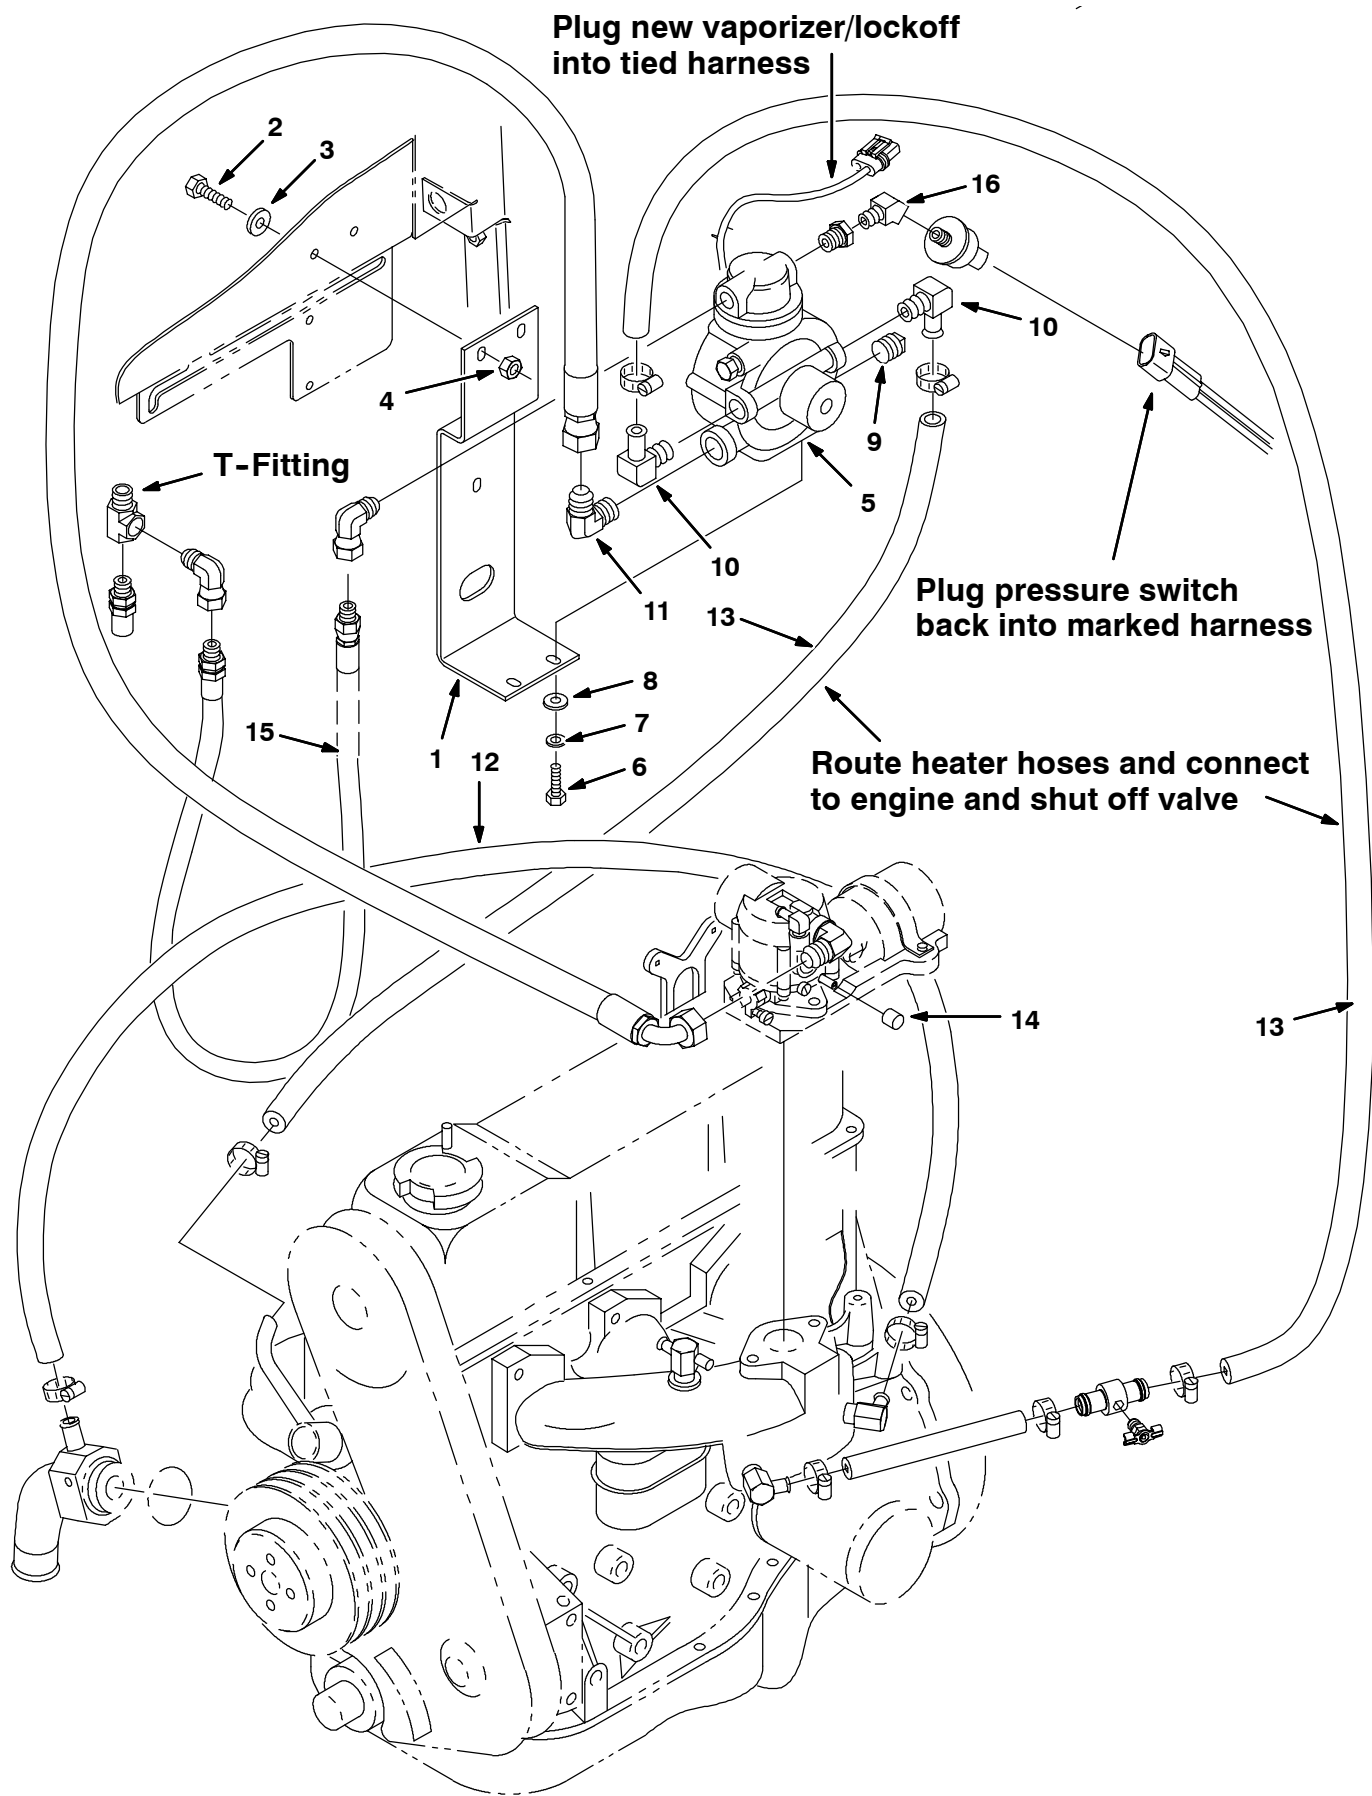

FIG. 10 - INSTALLATION, LPG VAPORIZER/LOCKOFF KIT 374160
15. Place the new vaporizer/lockoff assembly (5) in the new mounting location. Do not install at this point. (Refer to FIG. 10)
16. Route the heater hose (13) connected to the same side of the vaporizer/lockoff (5) as the pressure switch, back to the front right hand side of the engine. Connect the heater hose to the thermostat housing with a hose clamp. (Refer to FIG. 10)
17. Route the heater hose (13) on the opposite side of the vaporizer/lockoff (5), around to the left hand side of the engine. Connect the heater hose to the coolant air bleeder tube with a hose clamp. (Refer to FIG. 10)